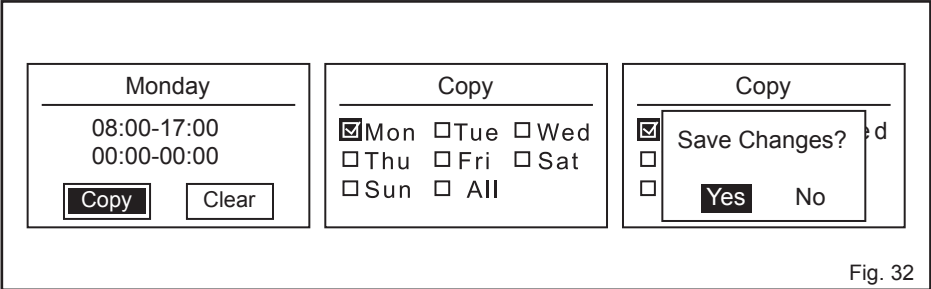

Fig. 32
- Turn the Dial to select Copy, and then press the Dial to enter the Copy page (Fig. 32).
- Press the back button, select Yes and press the Dial to confirm changes (Fig. 32).